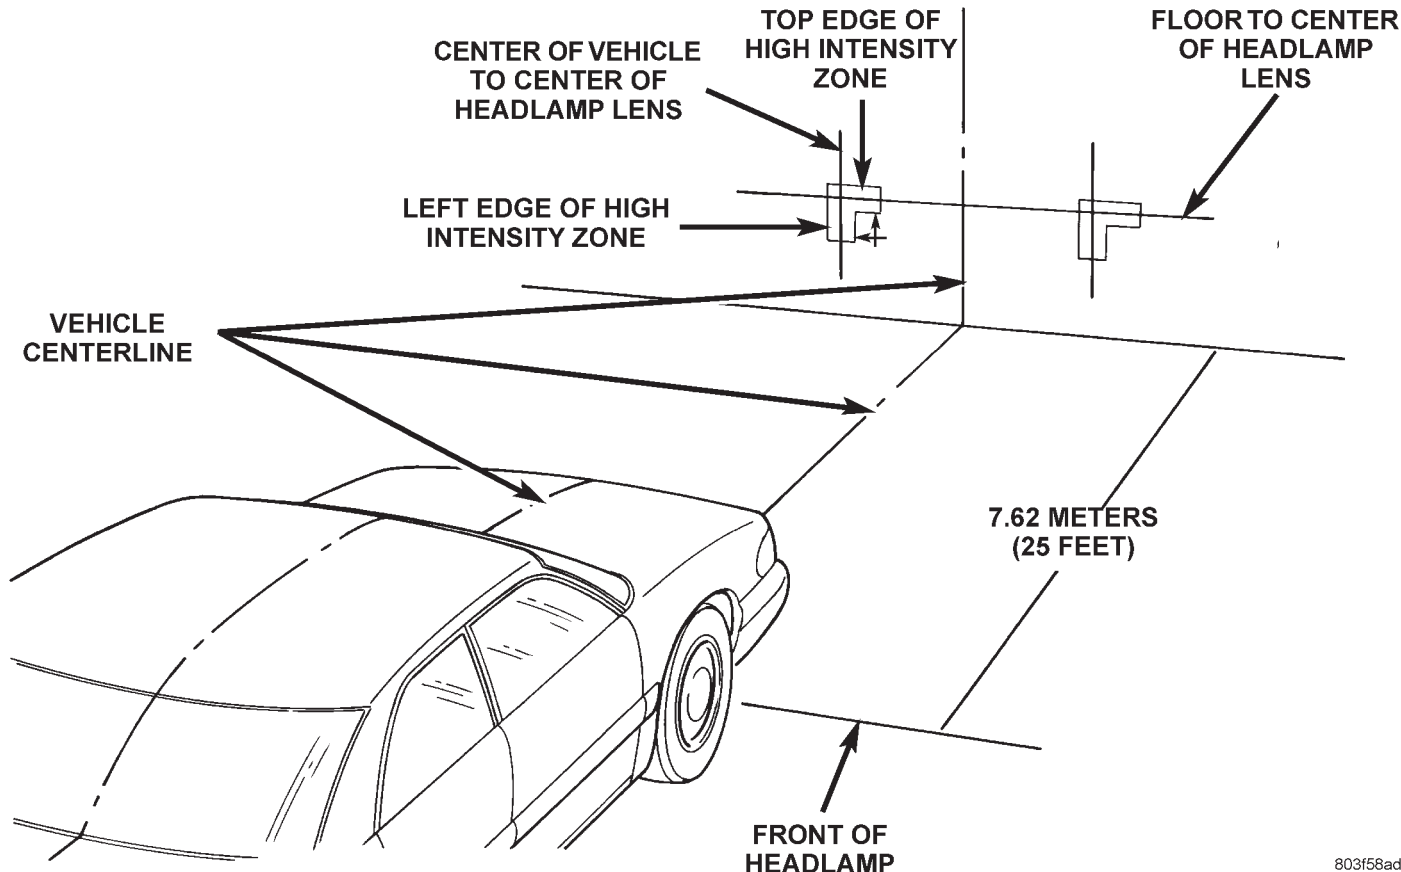

Fig. 1 Headlamp Alignment Screen—Typical
(1) Position vehicle on a level surface perpendicular to a flat wall 7.62 meters (25 ft) away from front of headlamp lens (Fig. 1).
(2) If necessary, tape a line on the floor 7.62 meters (25 ft) away from and parallel to the wall.
(3) Measure from the floor up 1.27 meters (5 ft) and tape a line on the wall at the centerline of the vehicle. Sight along the centerline of the vehicle (from rear of vehicle forward) to verify accuracy of the line placement.
(4) Rock vehicle side-to-side three times to allow suspension to stabilize.
(5) Jounce front suspension three times by pushing downward on front bumper and releasing.
(6) Measure the distance from the center of headlamp lens to the floor. Transfer measurement to the alignment screen (with tape). Use this line for up/down adjustment reference.
(7) Measure distance from the centerline of the vehicle to the center of each headlamp being aligned. Transfer measurements to screen (with tape) to each side of vehicle centerline. Use these lines for left/right adjustment reference.